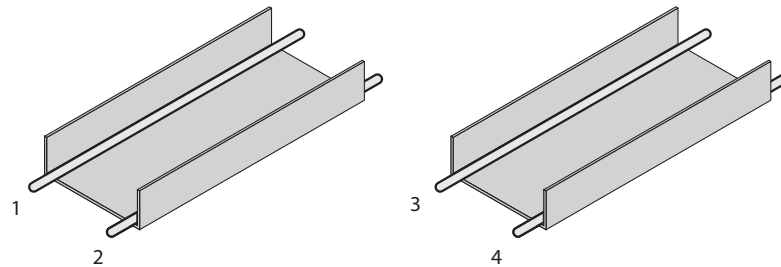
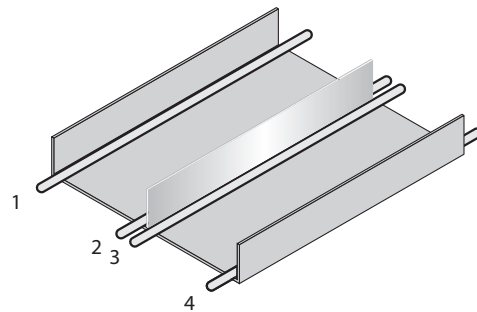

Figure 5: Ideal laying - Place cables in different cable channels
Figure 6: Alternative laying - Separate cables with metallic separators
- ▷ Route the cables in groups 1, 2 and 3, 4 in different cable channels or use metallic separators (see figure 5 and see figure 6). This applies particularly if cables of devices with a high level of radiated emission, such as frequency converters, are laid parallel to device cables.